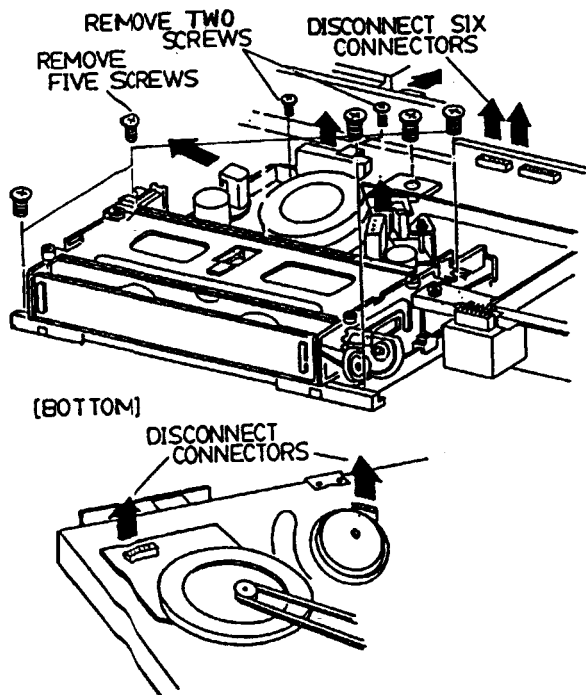

Fig.25
3. Remove the mechanism chassis assembly. (See Fig. 25)